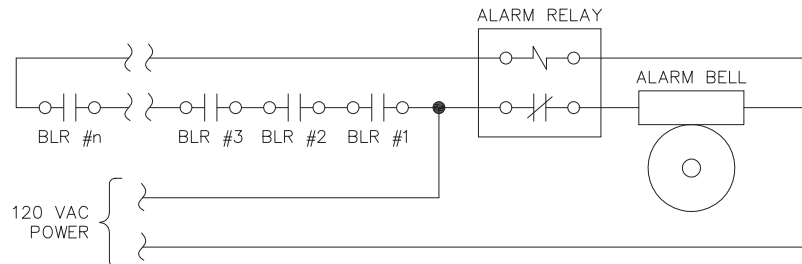

Figure 8.31
- l. **Alarm Mode:** The alarm mode allows the installing contractor to set the menu to the mode appropriate for the installation. The default setting is "Stand Alone" in which the alarm contacts (Terminals #31 & #32) simply close if an alarm condition exists. Figure 8.31 shows the proper wiring arrangement for the "Common Vent" alarm mode. In this configuration, the alarm will sound if a boiler loses power.